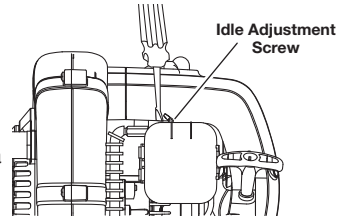

Fig. 7
The idle speed of the engine is adjustable. An idle adjustment screw is between the air filter cover and the engine cover (Fig. 7).
2. Move the cruise control to the SLOW position and let the engine idle. If the engine stops, insert a small Phillips screwdriver in between the air filter cover and the engine cover (Fig. 7). Turn the idle speed screw in, clockwise, 1/8 of a turn at a time (as needed) until the engine idles smoothly.